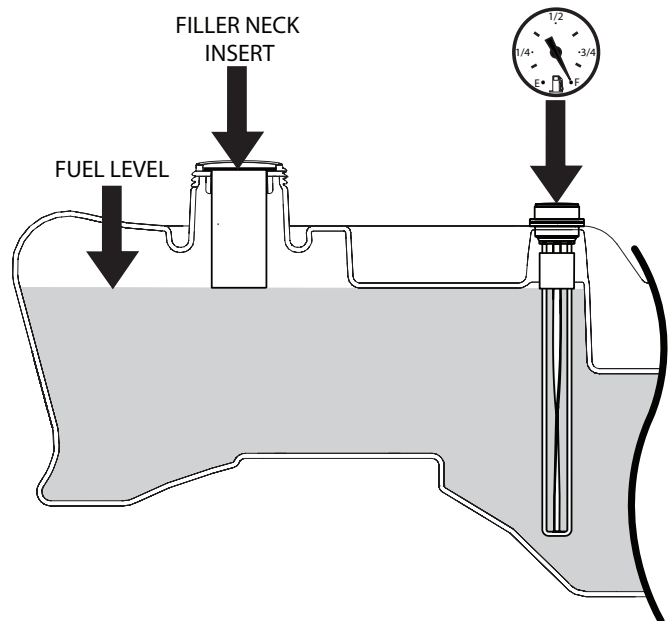

Figure 7-6. C.A.R.B. / EPA Phase 3 Fuel Level
Fill to the bottom of the filler neck insert (approximately 6-1/2 gallons on SFZ52/61 indicating Full (F) on the fuel gauge) at the beginning of each operating day. See Figure 7-6. Do not overfill. Use clean, fresh unleaded gasoline with a minimum octane rating of 87 and a maximum of 10% Ethanol.